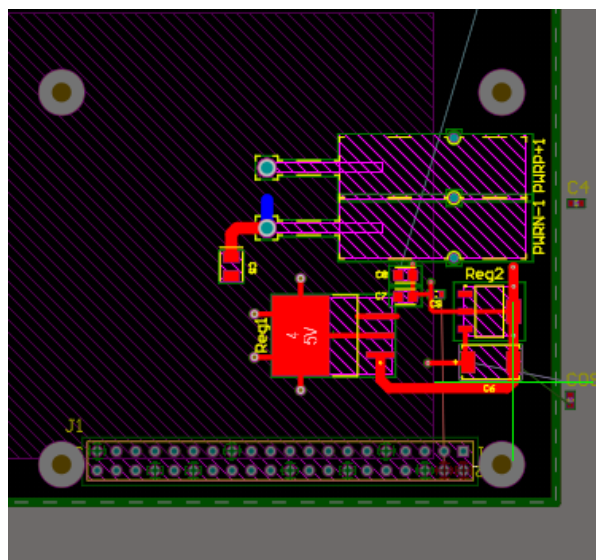

Figure 9. Placed Power Supply WCTopping reuse block
31. Position the Power Supply WCTopping reuse block inside the Board. Use Figure 9 as reference.